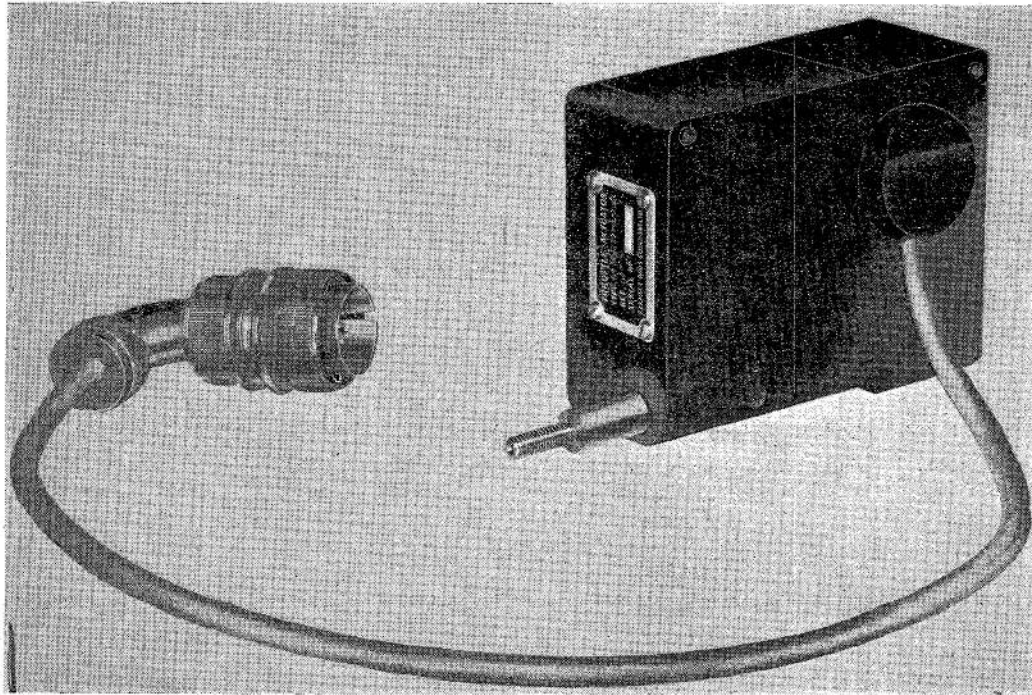

Fig. 1. Throttle actuator
1. The throttle actuator (fig. 1) controls the engine throttle, to increase or decrease engine thrust as required in response to electrical signals from the throttle actuator amplifier. The output shaft of the actuator is clutch-coupled to the pilot's port throttle lever, the clutch being normally disengaged during flight but engaged during the final approach. The output shaft is driven, by an electric motor via a gear train and rack and pinion.